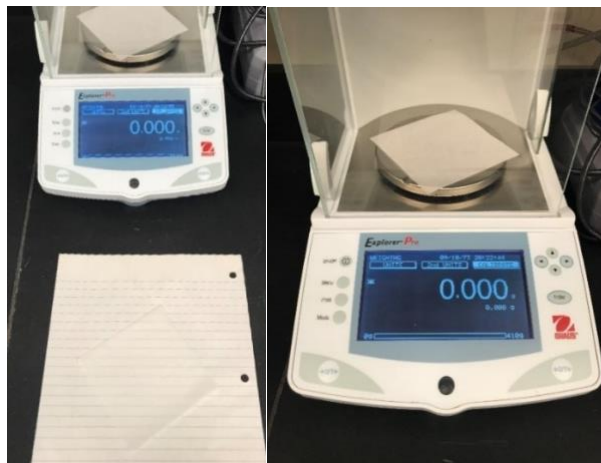

Figure 3: Example of Step 8 with scale, weighing paper, and blank sheet of paper.
- Place a blank sheet of paper on the lab bench near the scale. This is where you will Dremel the shell and collect the C14 “dust”. By placing a blank paper on the lab bench and working on top of it, your sample can be easily recollected if you were to accidentally blow some of the sample off the weighing paper. Next, take two sheets of weighing paper. Place the first sheet on scale and tare, then place the second sheet in the center of black paper (Figure 3).